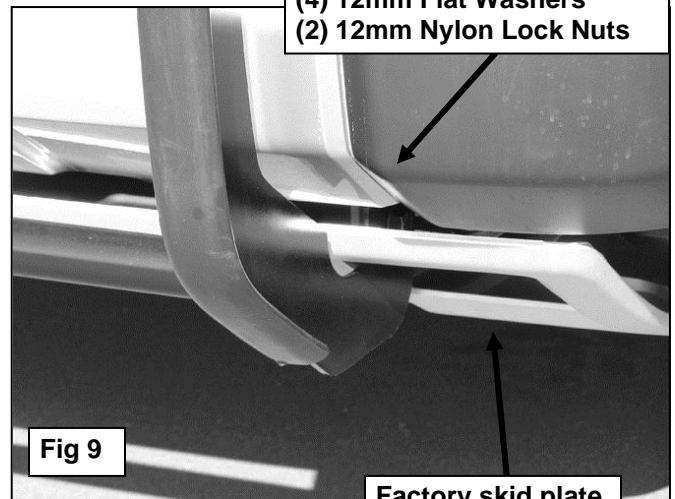

Fig 9
10. With assistance, position the Grille Guard onto the outside of the Frame Mounting Brackets. Use the included (4) 12mm x 30mm Hex Bolts, (8) 12mm Flat Washers and (4) 12mm Nylon Lock Nuts to attach the Grille Guard to the Frame Brackets, (**Figure 9**).
11. Line up the mounting hole in the driver side Top Bracket with the corresponding hole in the upright on the Grille Guard. Bolt the Top Bracket to the Grille Guard with the included (1) 10mm x 30mm Button Head Bolt, (2) 10mm x 20mm Small Flat Washers and 10mm Nylon Lock Nut. Do not tighten hardware at this time. Repeat this Step to bolt the passenger side Top Bracket to the Grille Guard.
13. Temporarily remove the Grill Guard. Reinstall the factory skid plate. Reinstall the Grille Guard and tighten all hardware, (**Figure 9**).